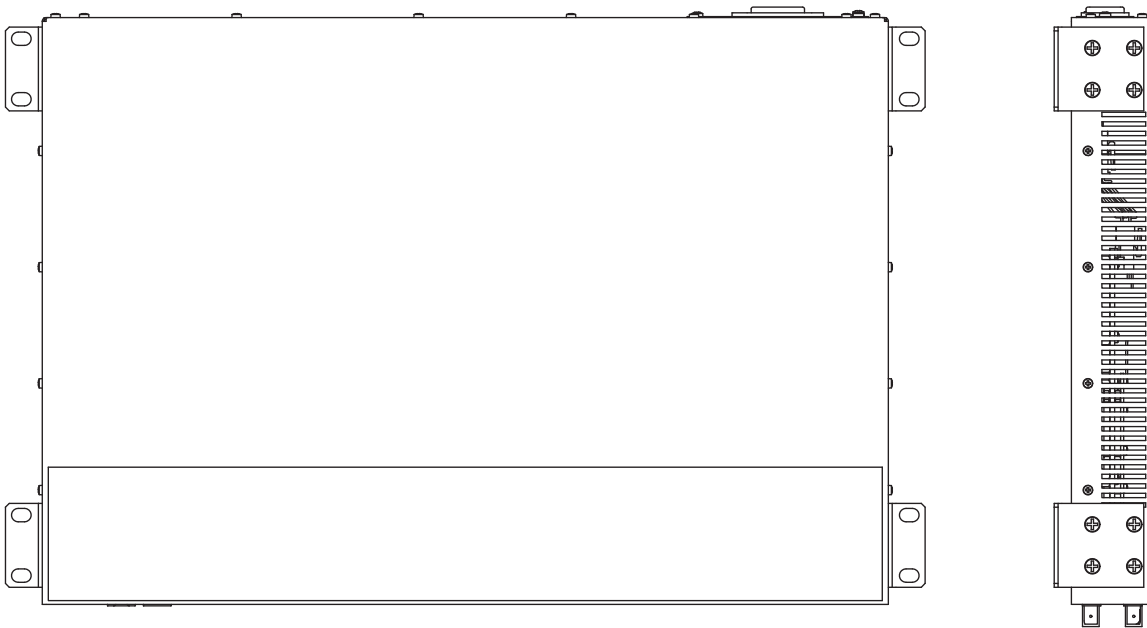

Figure 17: Vertical mounting on the wall
- Use the pre-mounted brackets included in the delivery as shown in the following figure (see fig. 17).
- Attach two additional brackets to the device (see on page 44 „Accessories“, not included in the delivery) as shown in the following figure (see fig. 17).